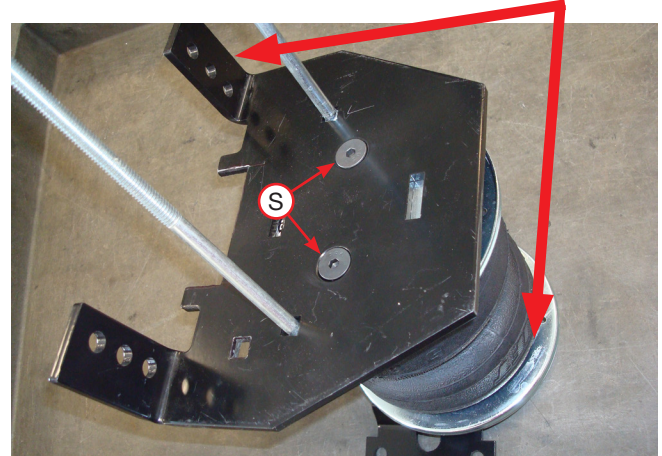

Fig. 17
5. Set the lower bracket main plate assemblies onto the air springs with the roll plates installed. Attach with the 3/8"-24 x 3/4" flat-head socket-cap screws (S) (Fig. 17). Torque the hardware to no more than 20 lb.-ft. (27Nm).